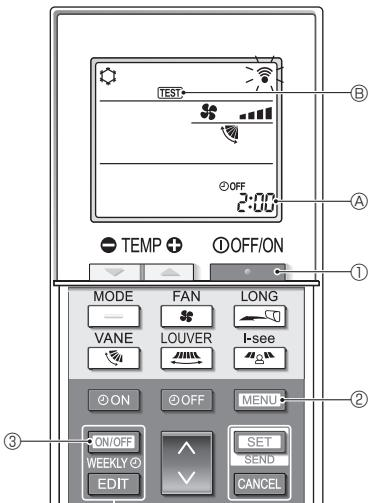

Fig. 7-5
■ Test run (Fig. 7-5)
- Press the button ① to stop the air conditioner.
- If the weekly timer is enabled (is on), press the button ③ to disable it (is off).
- Press the button ② for 5 seconds.
- Press the button ②.
- ④ comes on and the unit enters the test run mode.